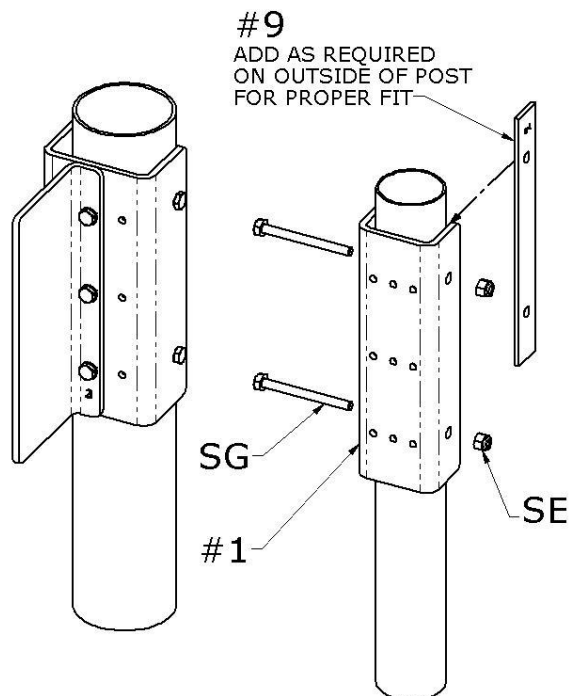

**FIG 6B**
**Magnalock®** - Position the lock template onto Bracket #3, mark only the four corner holes for the Magnalock. Carefully center punch and drill all four holes with a 13/64" bit and tap for 1/4-20 machine screws. Install the lock using the hardware as shown in FIG 6B. Complete installation of the Magnalock lock by referring to FIG 6B and following the installation guide included with the Magnalock.